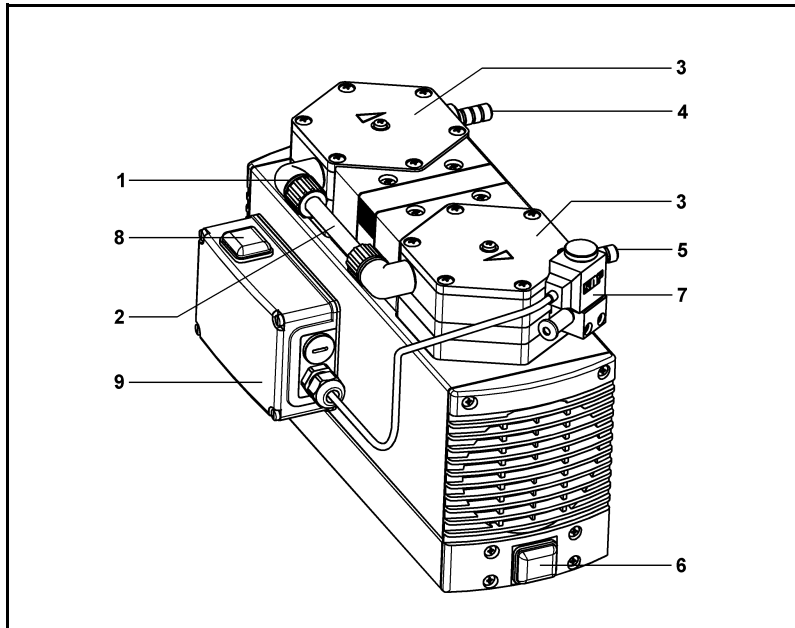

Fig. 2: Diaphragm pump (shown: pump N 840.3 FT.40.18, symbolic)
The venting valve (fig. 2/7 or fig. 3/12) at suction side pump head is opened by the control system, permitting air to enter the evacuated pump head. As a result of the increase in pressure in the pump head, the inlet valve of the first pump head closes by itself, thereby sealing off the connection to the source being evacuated.
- ➔ Switch on pump with mains switch (see fig. 2 or 3).
- ➔ If cyclic drying of the pump heads is required in the current evacuation process, switch the drying system on at the mains switch of the control box (see fig. 2 or 3).